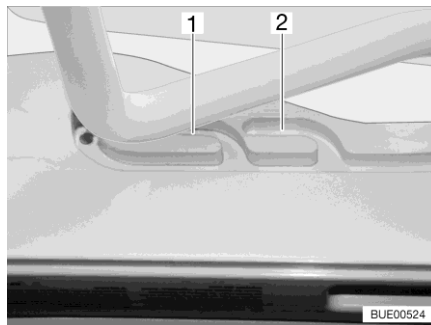
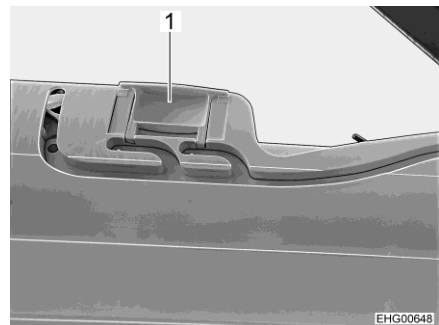

Fig. 24 Guide (ventilation position)
Fig. 25 Lock (ventilation position)
The Heki skylight can be put in two ventilation positions: Bad weather position (Fig. 24,1) and central position (Fig. 24,2). Depending on the model, the skylight can be locked in the central position with both left and right latches (Fig. 25,1) on the skylight frame.
- Push the bar slightly upwards and into the selected guide (Fig. 24,1 or 2) and lock if necessary.